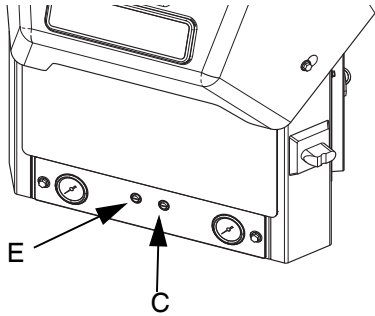

FIG. 18
- Use vacuum transfer air pressure regulator (E) to adjust vacuum transfer air pressure setting to 40-100 psi (280-690 kPa, 2.8-6.9 bar). Recommended setting is 60 psi (414 kPa, 4.1 bar). See FIG. 18.